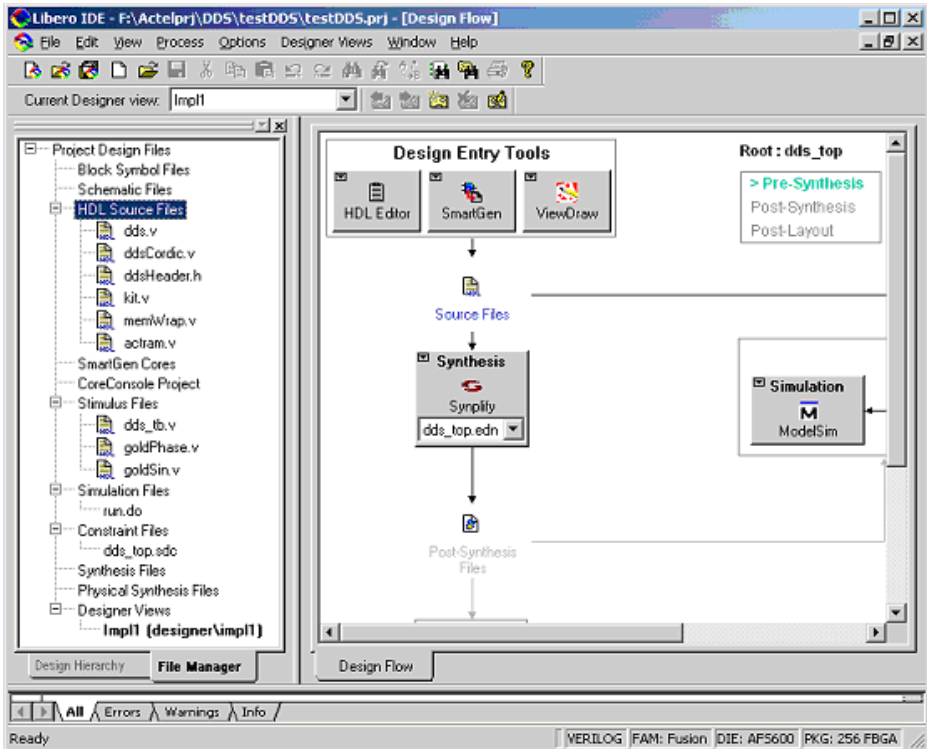
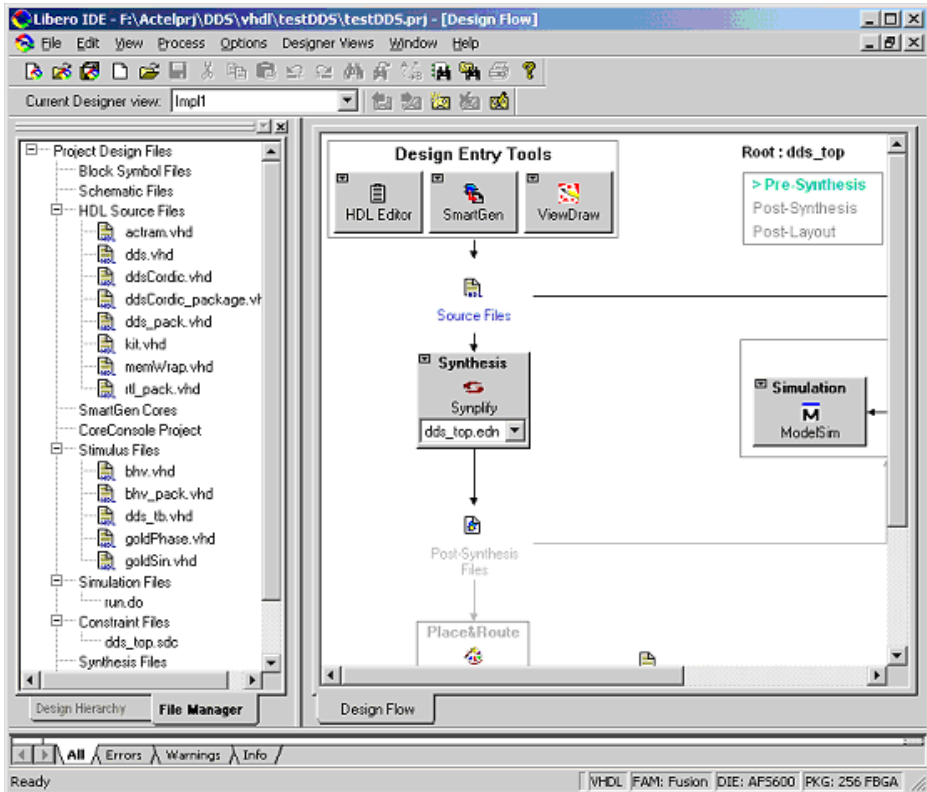

Figure 2-1. Libero IDE DDS Verilog Project Settings
Figure 2-2. Libero IDE DDS VHDL Project Settings
10. Successful installation of CoreDDS source files results in a Libero IDE screen similar to the one shown in Figure 2-1 (Verilog project) or Figure 2-2 on page 20 (VHDL project).
10. Successful installation of CoreDDS source files results in a Libero IDE screen similar to the one shown in Figure 2-1 on page 19 (Verilog project) or Figure 2-2 on page 20 (VHDL project).